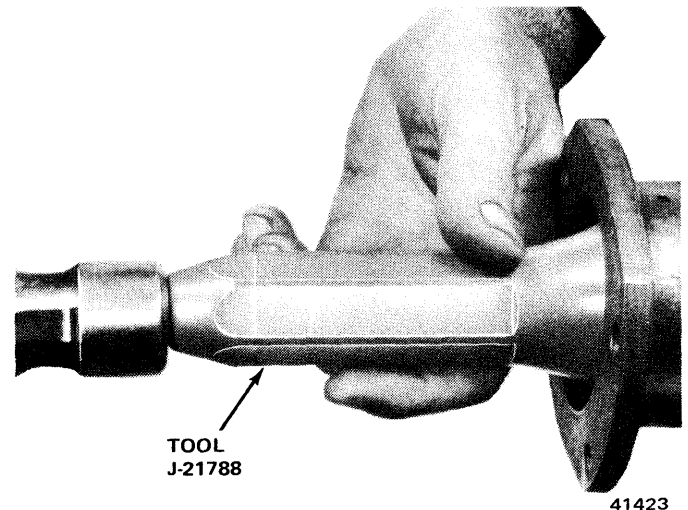

Fig. 10-21 Installing Inner Seal
(1) Press axle shaft bearing(s) onto axle shaft(s). Small diameter of cone must face toward outer tapered end of shaft.
(2) Coat outer surface of seal metal retainer with nonhardening sealer.
(3) Install inner oil seal using Axle Shaft Seal Installer J-21788 (fig. 10-21).
(4) Install axle shaft(s). Align splined end with differential gears.
(5) Install outer bearing cup.
(6) Inspect brake support plate for elongated bolt holes. Replace support plate if necessary.
(7) Install original axle end play shims, oil seal assembly, and brake support plate. Tighten attaching bolts to 35 foot-pounds torque.